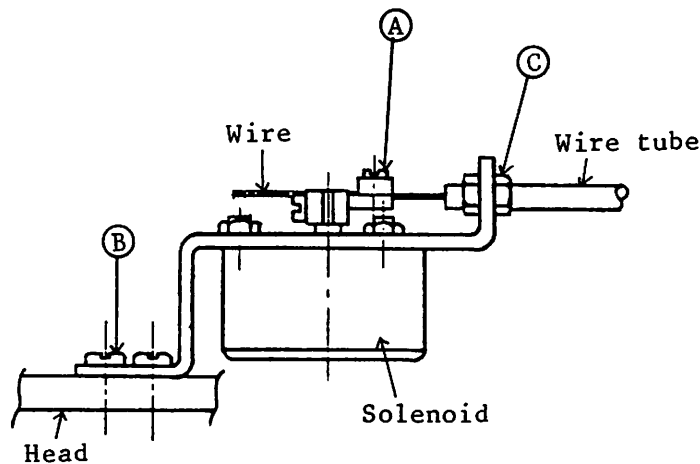

Fig. 10.14
- (1) Adjust the needle thread tension release so that the tension discs open about 1.0mm when the tension release solenoid is actuated.
- (2) To adjust, loosen nut (C) shown in Fig. 10.14 and move the flexible wire.